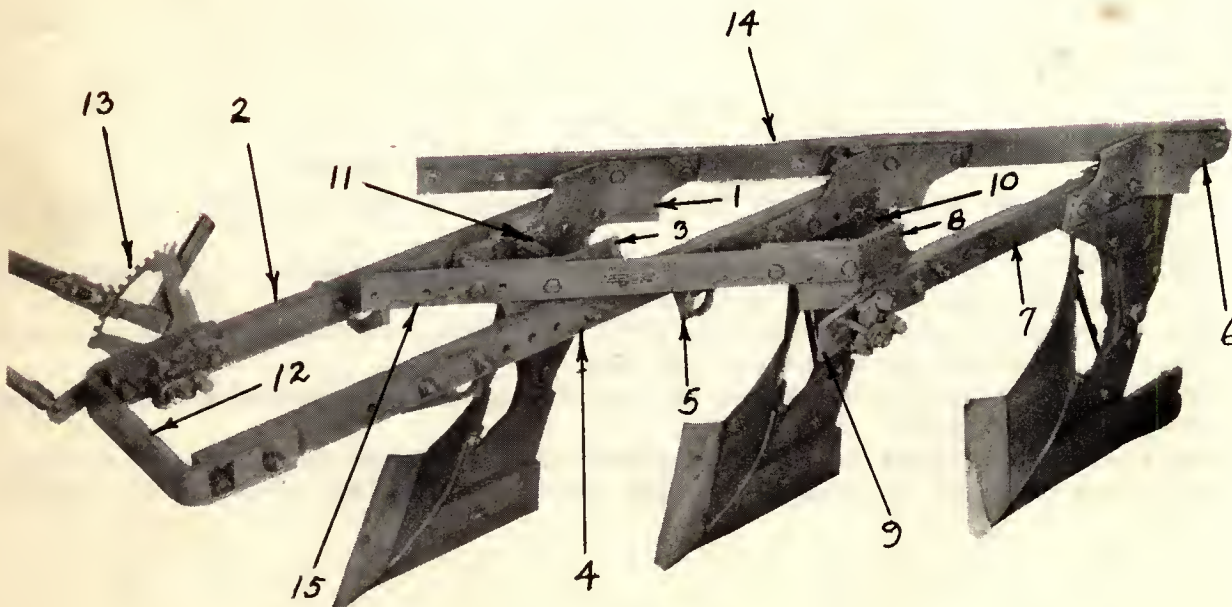

FIGURE 6
Assemble the cross bar bracket (1) Figure 6 on the first beam (2) as shown. The front cross bar bracket (3) (TP-3010) is assembled on the (RH) side of 2nd beam (4) using the 2 holes just ahead of the land axle bearing (5). The rear cross bar bracket (6) on the 3rd beam (7) is assembled as shown. The front cross bar bracket (8) (TP-3010) is assembled on the 3rd beam using the 1st, 2nd and 3rd holes in the beam. The colter bracket (9) is assembled on the 3rd beam using the 1st and 2nd holes in the beam. Refer to Figure 5 for 12" width adjustment of frame braces (10) and (11) and assemble braces as shown. The (RH) end of the front brace (12) and sector (13) are assembled to the outside of the 1st beam. The (LH) end of front brace is attached to the outside of 2nd beam as shown. The rear cross bar (14) is bolted to the 3 cross bar brackets as shown. The front cross bar (15) is bolted to the 2 front cross bar brackets (TP-3010).